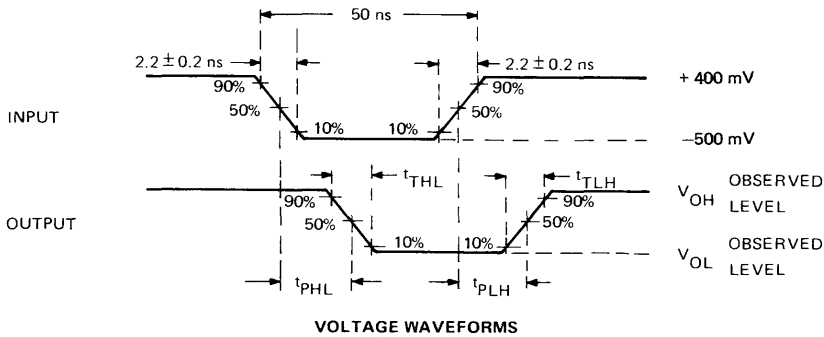

FIGURE 5—PROPAGATION DELAY AND TRANSITION TIMES
NOTE: 7. The eight combinations of voltages at input terminals A, B, and C shown in the table of Figure 5, are applied sequentially. With each combination of input voltages, the enable input, D, is pulsed from the high level to the low level to give a low-level output at the particular output line shown in the table. The input pulse is measured as it is applied with each combination of input voltages and a waveform measurement is made at the corresponding output.
7. The eight combinations of voltages at input terminals A, B, and C shown in the table of Figure 5, are applied sequentially. With each combination of input voltages, the enable input, D, is pulsed from the high level to the low level to give a low-level output at the particular output line shown in the table. The input pulse is measured as it is applied with each combination of input voltages and a waveform measurement is made at the corresponding output.